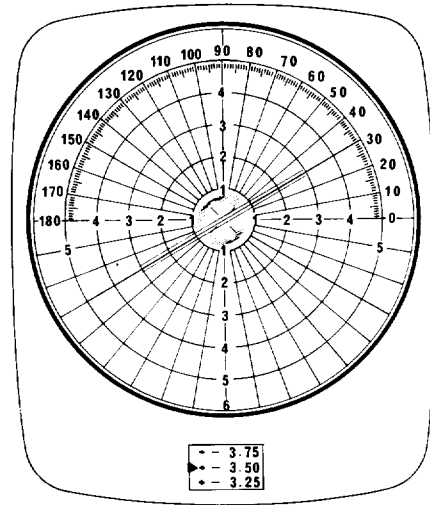

Fig. 6
(2) C diopter power
- Rotate the diopter measuring knob (9) further in the same direction to focus the longer crossline. (Fig. 6) Then, read the diopter scale window.
Example of Fig. 6: -3.50 D
(3) Measurement of astigmatic axis
- Astigmatic axis can be measured by reading direction of the longer crossline which is focused clearly on the screen protractor. (Fig. 6)
Example of Fig. 6: Axis 30°